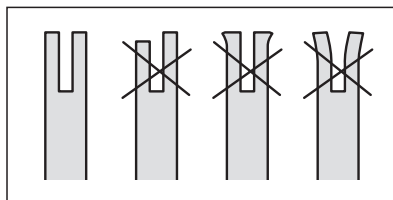

Fig. 14c
- 5). Check the guide bar 'rail' for wear: Hold a ruler (straight edge) against the side of the guide bar and 'cutter side plates'. If there is a gap between the ruler and guide bar the guide bar 'rail' is normal. If there is no gap (ruler flush against the side of the guide bar) the guide bar 'rail' is worn and needs to be replaced with a new one of the same type (Fig. 14c).